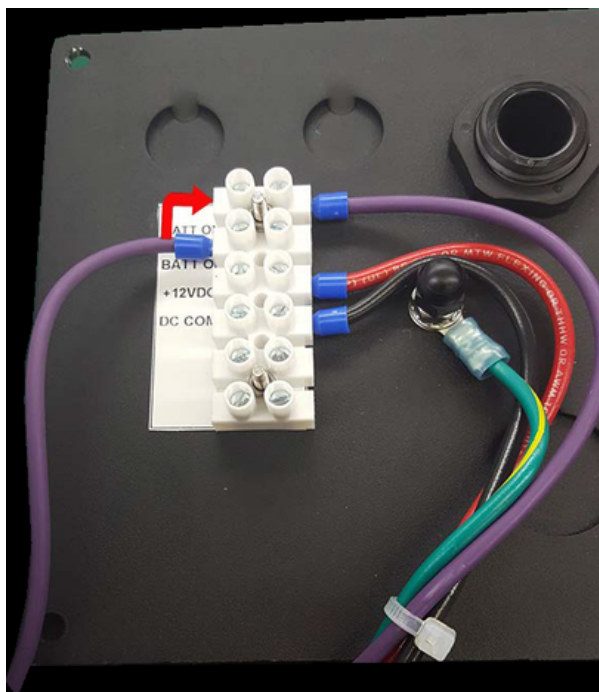

Figure 5-7
In addition to these instructions use best practices as prescribed by the NEC. These instructions should only be carried out by a qualified technician. The 9SE includes the necessary wiring to safely connect the solar panel to the charge controller and battery reserve built into the sign's chassis. Connecting the Sign to power (See Figure 5-7):
5. When Solar Connections have been made, Connect charge connector back to the batteries by connecting the purple wire into the "Battery ON" terminal. Reference Figure 5.7 below